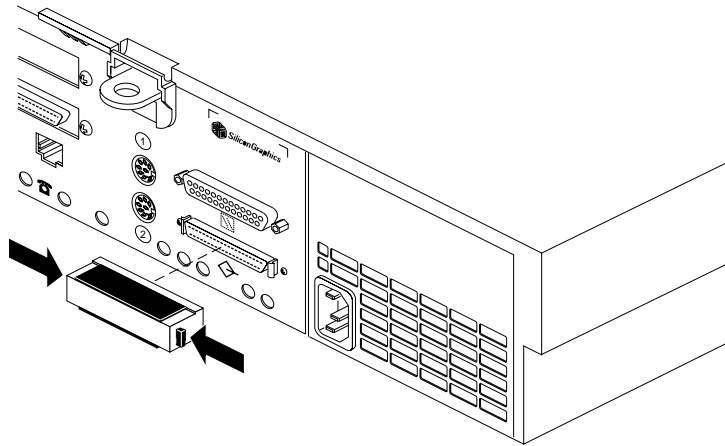

Figure 6-5 Removing the 50-Pin SCSI Terminator From the Challenge S Server
- If you are connecting the device to the Challenge S server, remove the terminator from the SCSI connector on the rear of the server by squeezing the clips on both sides of the terminator and pulling it off, as shown in Figure 6-5.